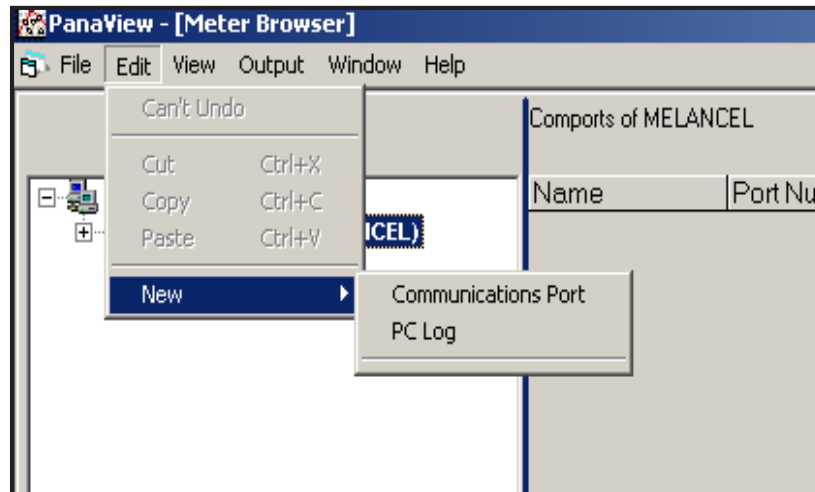

Figure 18: Edit Menu
3. Click on the “*New*” menu option to select it, and a submenu opens with two choices on it (see Figure 18).